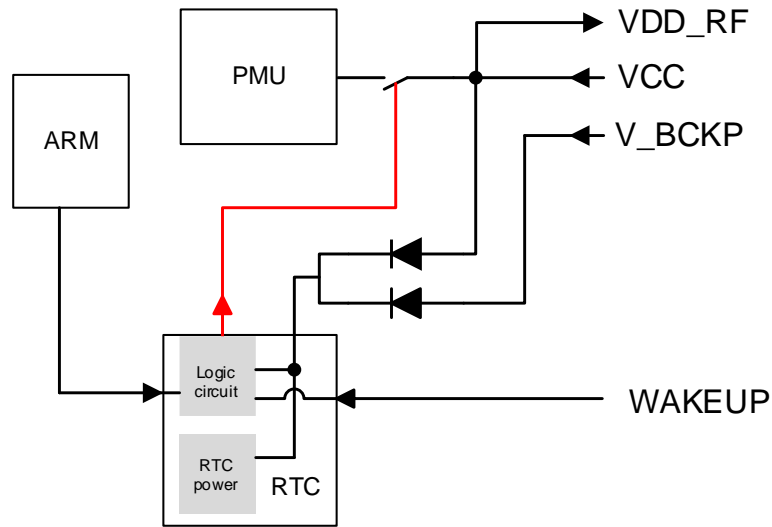

Figure 3: Internal Power Supply
The two diodes in the following figure construct an OR gate to supply power for RTC domain. WAKEUP pin belongs to RTC domain. The signal shown as red line in Figure 3 can open and close the switch. The following steps will close or open the switch:
- Keep the WAKEUP pin open or low (the signal shown as red line in Figure 3: Internal Power Supply) and send software command to enter Backup mode. The only way to wake up the modules is by pulling the WAKEUP pin high (signal shown as a red line in Figure 3: Internal Power Supply). For more information about the command, see [document \[1\] protocol specification](#).